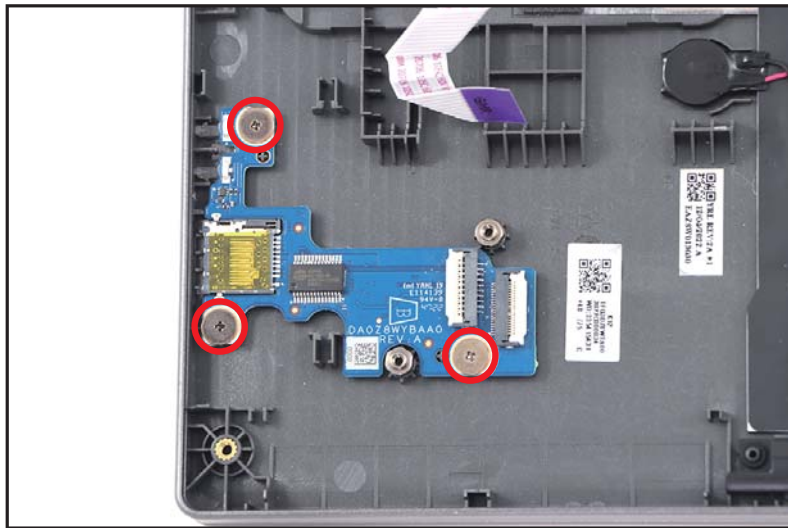

Figure 1-33. Card Reader Board Removal
4. Remove three (3) screws securing the card reader board (Figure 1-33).